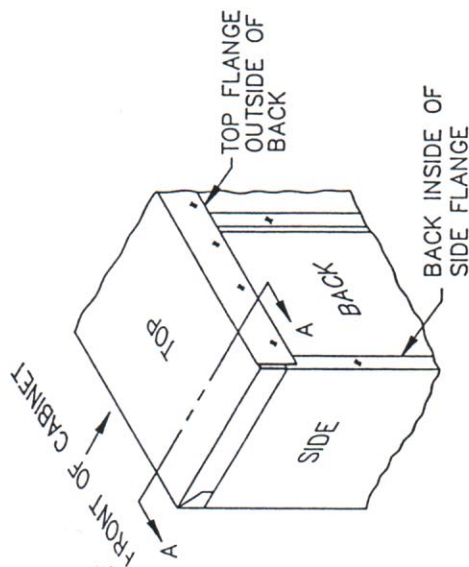

FIG.6
- 4 POSITION THE CABINET TOP SO REAR FLANGE IS OUTSIDE THE BACK. BOLT IT TO THE BACK AND SIDE. {3 BOLTS EACH SIDE, 1 SHEET METAL SCREW EACH END AND 4 BOLTS (OR 6 IF 48" WIDE) ACROSS THE BACK}} (FIG.6 & 7)